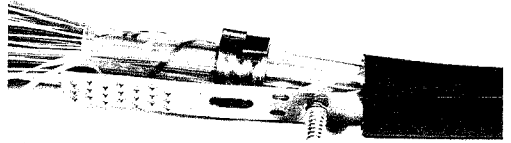

Fig. 2 — Z Bond Clamp Insertion
- 4.06 Insert the whole curved portion of the Z Bond Clamp between the core wrap and the aluminum shield on the opposite side to the slit. (See Fig. 2).